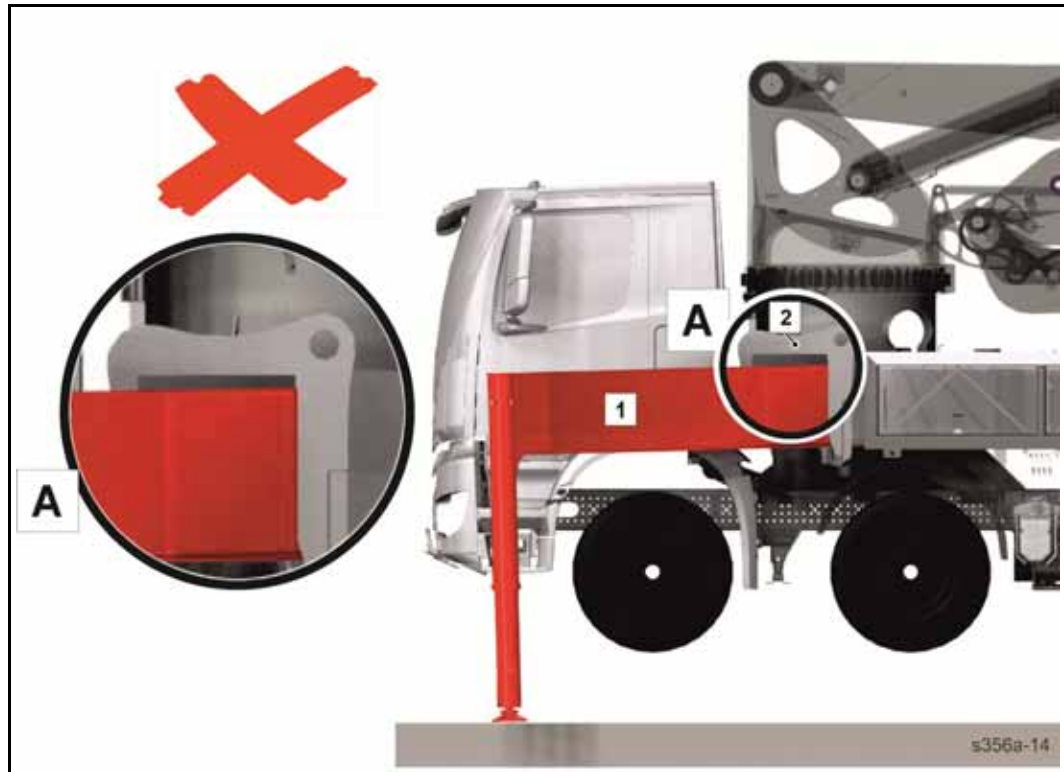

**Fig. 142 Rear transport safety device outrigger**
Caption (Fig. 142)
- Remove the transport safety devices (4) from the front (**Fig. 141**) and rear (**Fig. 142**) outriggers.
- Place the support pads under the centre of each supporting leg as illustrated in **(Fig. 142)**. If necessary, only improve the positions of the support pads; do not move the outrigger.